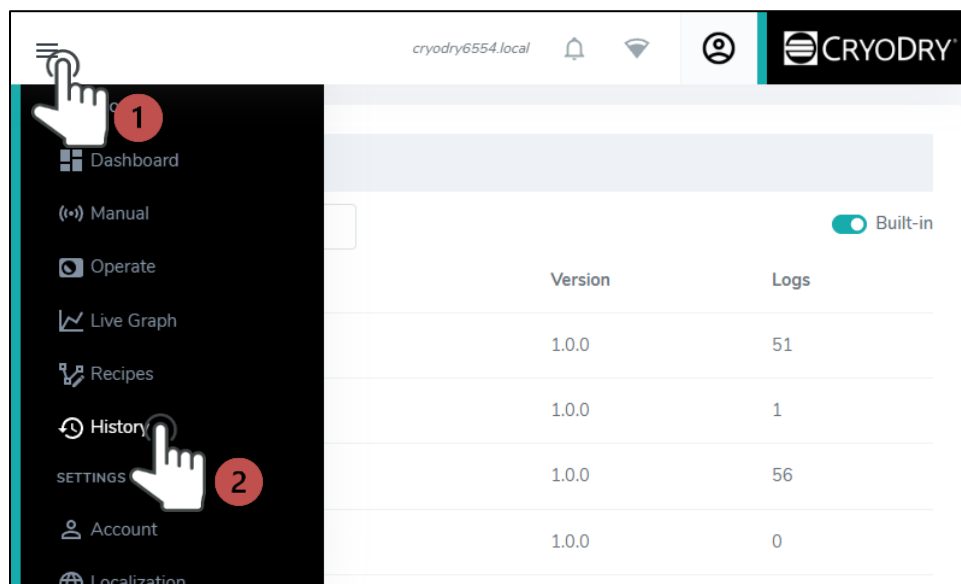

Figure 77
2. Then “History” from the left sidebar (Figure 77).